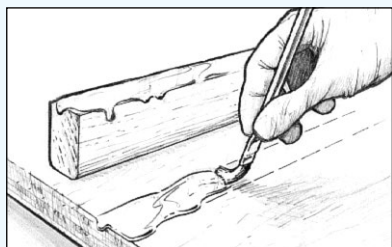

Figure 9 Apply resin/hardener mixture to the bonding surfaces.
1. Apply a resin/hardener mix to the surfaces to be joined (*Figure 9*). This is called “wetting-out” or “priming” the bonding surfaces. The epoxy is applied with a disposable brush in small or tight areas; wet-out larger areas with a foam roller or by spreading the resin/hardener mix evenly over the surface with a plastic squeegee/spreader. Proceed with step two immediately or any time before the wet-out coat becomes tack free.